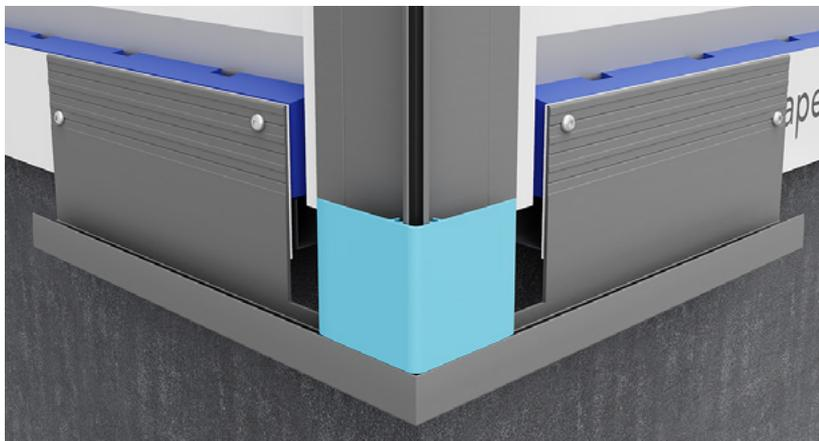

FIGURE 12. DUMMY SECTION CAP FLASHING ALIGNMENT
6. Position the Corner Cap Flashing (NC107X) and engage the “snap together” connection with a gentle tap with a dead shot hammer - or rubber mallet. Ensure the Corner Flashing (NC107X) and Base Channel Corner (NC134FAB) are perfectly aligned with the apex of the corner for a clean, accurate finish - See section 4.1 and figure 12.